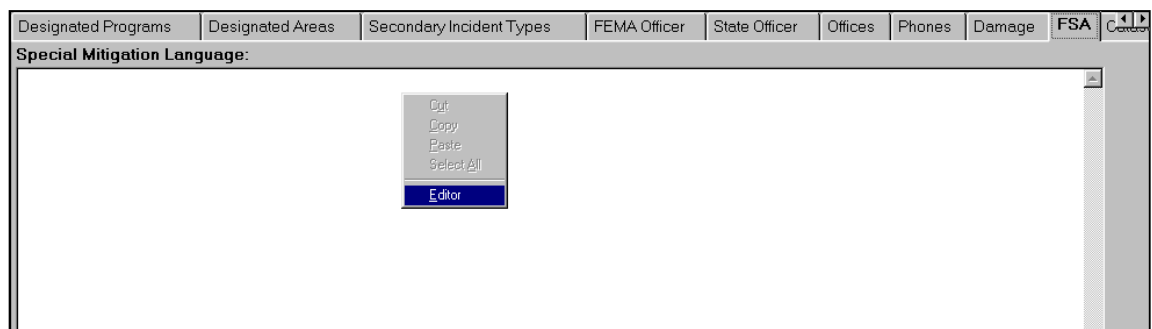

Figure 3-16: Editor Menu
2. To add text, right-click inside the box and select Editor (Figure 3-16). The Editor screen is displayed.